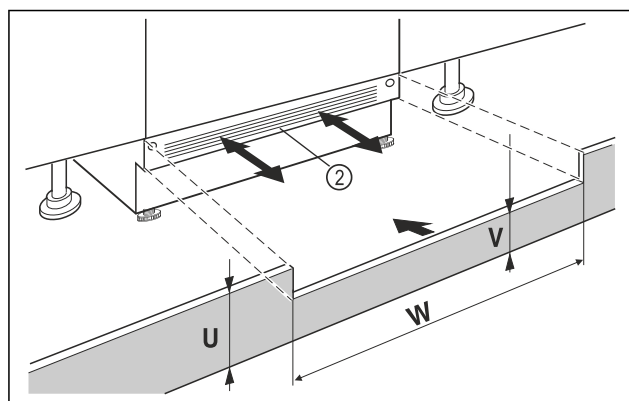

Fig. 37 Example illustration
- Put on the appliance base cover Fig. 37 (2) but do not fix it in place yet.
- If the base panel is visible Fig. 37 (2), pull it forwards so that the front edge of the ventilation grille and the unit base panel are level.
- If the base panel is concealed Fig. 37 (2), push it all the way back.
- Ensure that the ventilation slots are completely free: If necessary, cut the height of the unit base panel Fig. 37 (U) to size!
- Adjust the web height *Fig. 37 (V)* under the appliance base panel *Fig. 37 (2)* along the niche width *Fig. 37 (W)*.